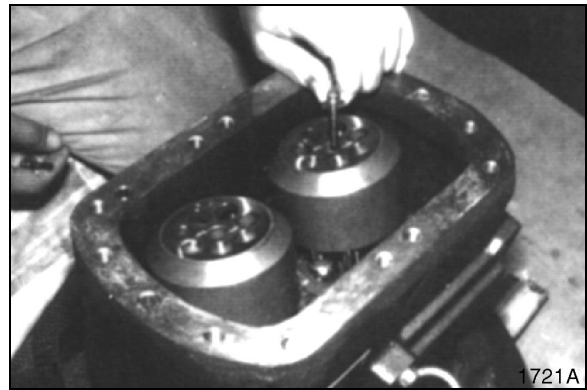

Figure 127
22. Remove hex bolt with rubber disk. See Figure 127.